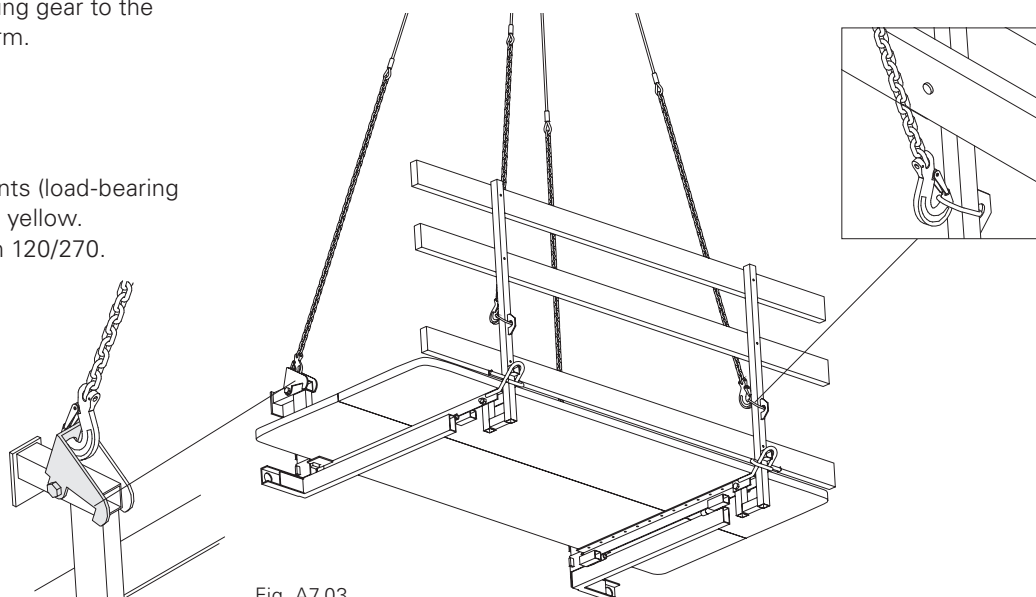

Fig. A7.03
3. Attach 4-sling lifting gear to the concreting platform. (Fig. A7.03)